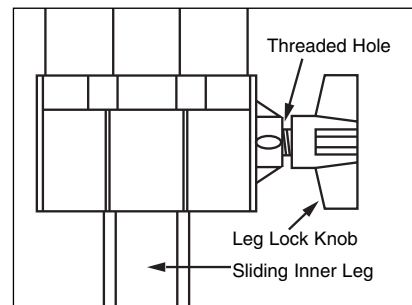

Fig. 1f: Tripod lock knob assembly.
- The three tripod lock knobs (43) have been removed from the bottom section of each tripod leg to insure safe arrival of the tripod assembly. To install, thread in each tripod lock knob into the threaded hole located at the right side of each of the three castings (see **Fig. 1f**) at the bottom of each tripod leg. Tighten the tripod lock knob only to a "firm feel" to avoid damage to the tripod caused by overtightening.